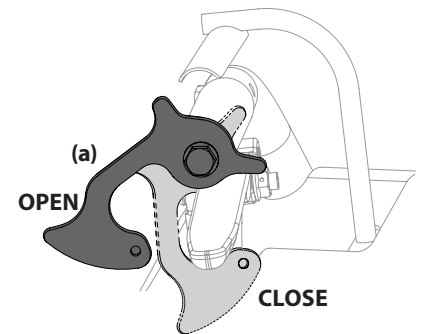

Figure 27
3. Move the neutral lock levers (a) to the OPEN position. See Figure 27.
5. Move the neutral lock levers into the CLOSED position. See Figure 27.
7. CLOSE the neutral lock levers (see Figure 27) and move the speed control lever to verify that there is no creeping. If the mower still creeps, try the adjustment again.